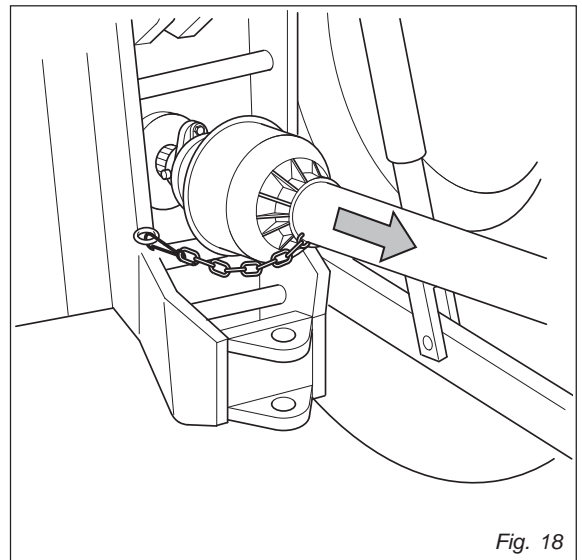

Fig. 18
4. Unhook the PTO shaft (, Fig. 18) from the tractor and put in on the special hook.